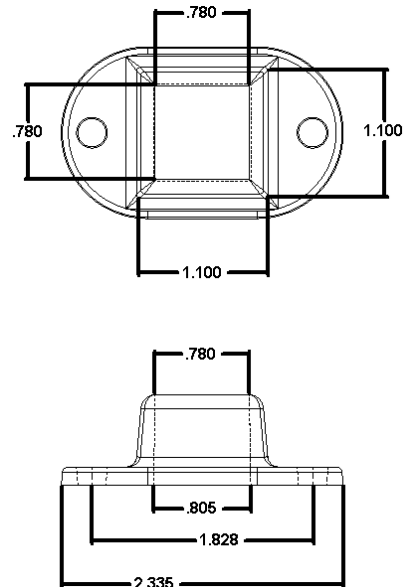

Figure 13 – Bottom Rail Foot Block
3.7. A bottom rail support block is composed of 3/4" square x 2 inch long, hollow 6063-T6 aluminum, extrusion secured to the underside of the bottom rail with a stainless steel fastener and secured to the deck surface with a cast aluminum collar bracket. See Figure 13 and Table 2 Fastening Schedule. The support block is located at mid-span for the 96 inch railing and at the 1/4 and 3/4 span locations for the 120 inch railing.